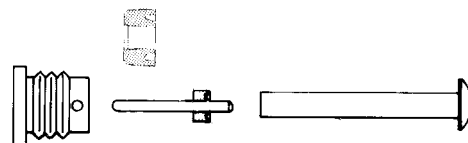

Fig 3
8. Grease the needle (6) and packing (4). Insert the tapered end of the needle into the back (flat) side of the packing. See Fig 3.
9. Guide the tapered end of the needle into the assembly tool (8) and press the lips of the packing over the end of the tool. See Fig 3.
10. Grease the free end of the needle. Guide the tool (8) into the fluid housing until the needle protrudes through the top of the housing. Lightly tap the tool end until you "hear" the packing bottom in the housing. Remove the tool with pliers. See Fig 3.